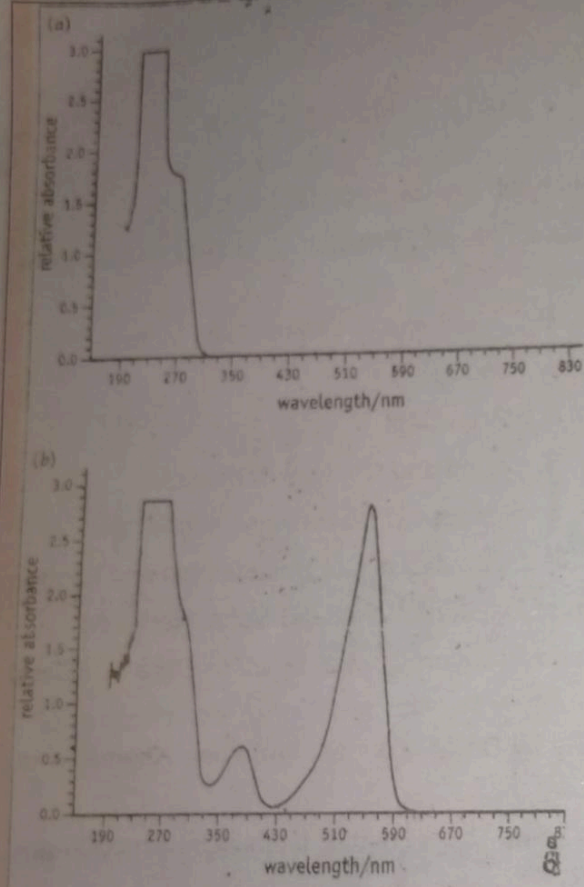

Figure 24.16: The visible/ultraviolet spectrum of phenolphthalein (a) at pH 6, (b) at pH 10.
3. Phenolphthalein is an organic chemical, molecular formula $C_{20}H_{14}O_3$ Figure 24.16 (a) shows the visible / ultraviolet absorption spectrum of phenolphthalein at pH 6. Figure 24.16 (b) shows the spectrum of the same chemical at pH 10. Table 24.3 gives the approximate wavelengths of visible radiation of different colours.